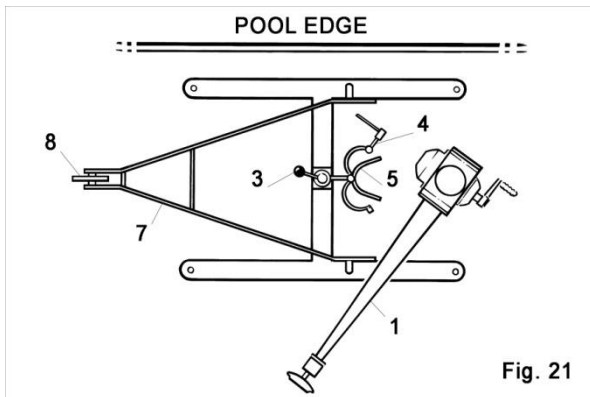

Fig. 21
Remove the chair or stretcher from the Neptune and move the boom (1) in Figs. 21 and 22 away from the pool edge, (see Fig. 21), lower the mast (2) to within 150mm (6") of the ground level.
Open the clamps (4) and approach the Neptune as shown in Fig. 21.